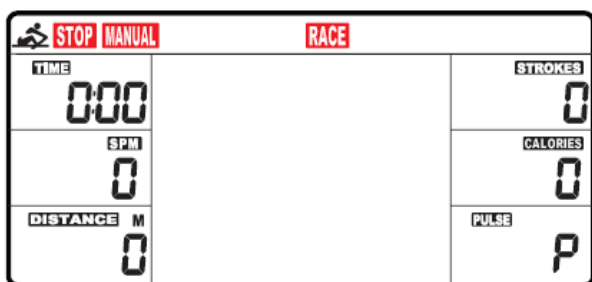

Fig. 3
2. The CLOCK will flash. Press UP / DOWN to set the hour. Press ENTER to confirm. Press UP / DOWN to set the minutes. Press ENTER to confirm. Continue to set up YEAR (in the STROKES window); MONTH (in the CALORIES window); DAY (in the PULSE window) by pressing UP or DOWN. Each time, press ENTER to confirm. After you confirm all values, the ALARM will blink. To skip setting up an alarm, press ENTER. To set up an alarm, press the UP KEY to turn on ALARM. An arrow will appear next to ALARM. Press ENTER. CLOCK window will flash. Press UP or DOWN to set the alarm time. Press ENTER to confirm. The console will then go into the SPORT screen (Fig.3).